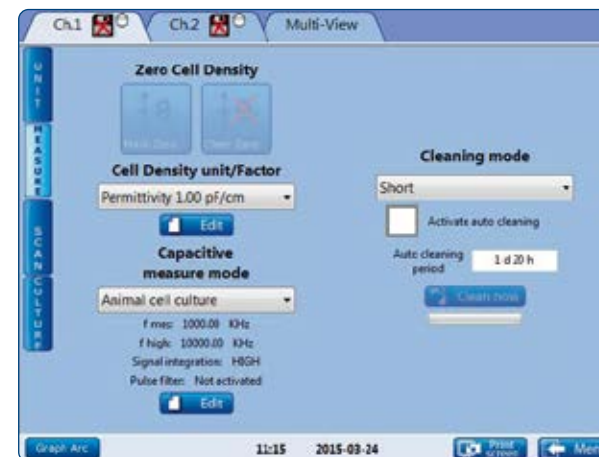

Figure 35: Selection of the cleaning mode.
7. Activate the Auto-Cleaning (Figure 35) and define the Auto-Cleaning Period, i.e. the time between two Auto-Cleaning cycles.